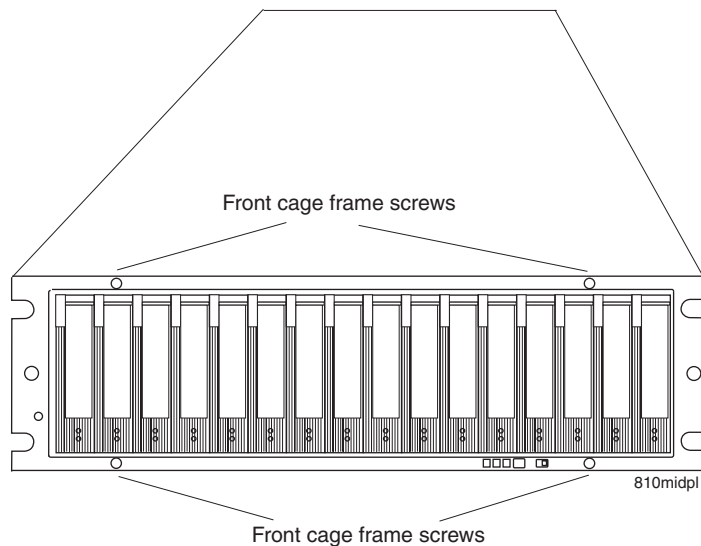

Figure 88. Front cage frame screw locations
9. Use a #1 Phillips screwdriver to loosen the four front cage frame screws on the midplane, as shown in Figure 88.
16. Tighten the four front cage frame screws. See Figure 88 on page 153.